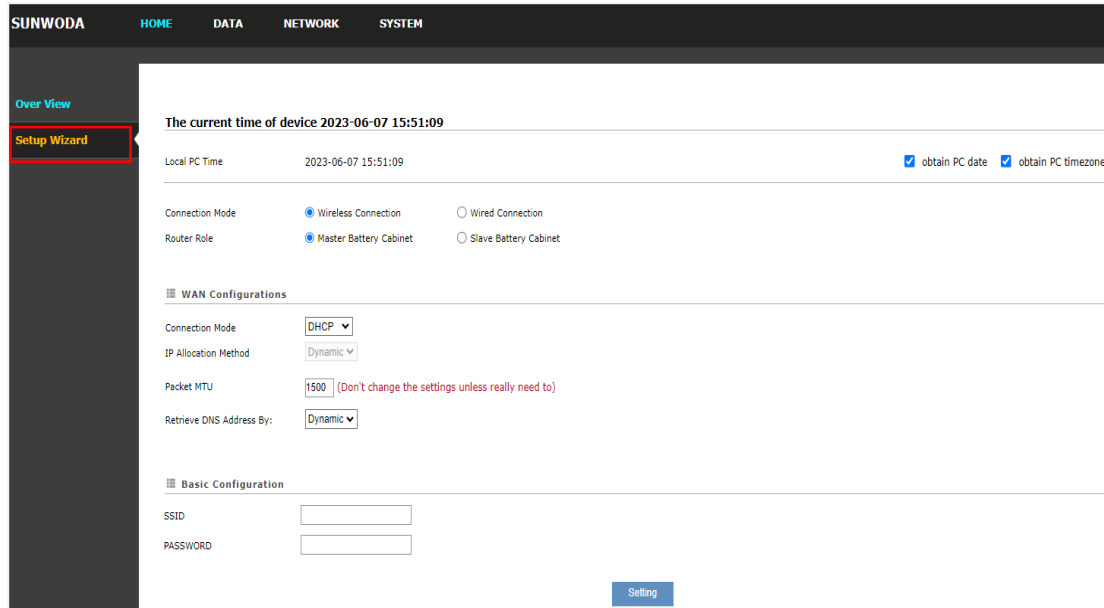

Figure 4.5
(3) Set the network access method (recommended wired, master battery cabinet) in the following page (Fig 4.5), after setup is completed, if prompted to restart the device, please be patient (The WAN port of the control box is connected to the WAN interface with a standard network cable).